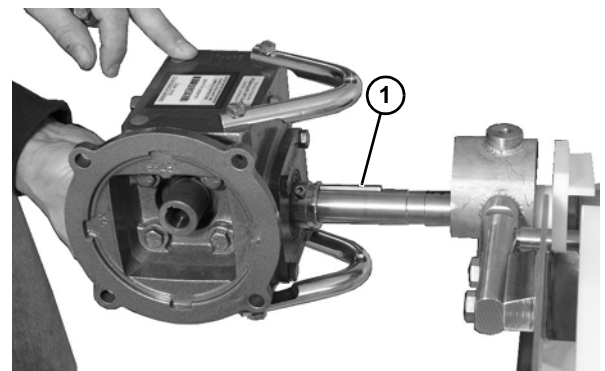

Figure 56
6. Slide assembly off the bearing spindle (Figure 56). Remove the key (Figure 56, item 1).